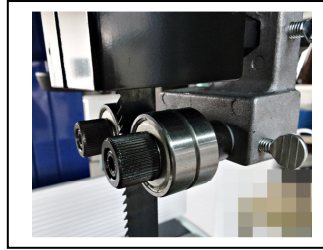
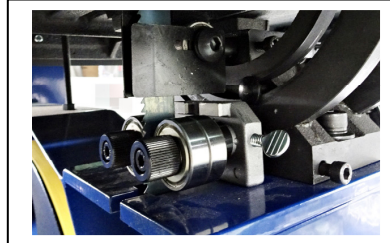

Figure 10
Figure 11
1. Set the bearing of upper and lower blade guide within approx. 0.5mm of the blade. Make sure the bearing and the back of the blade approx. 0.5mm. (see Figure 10 and Figure 11)